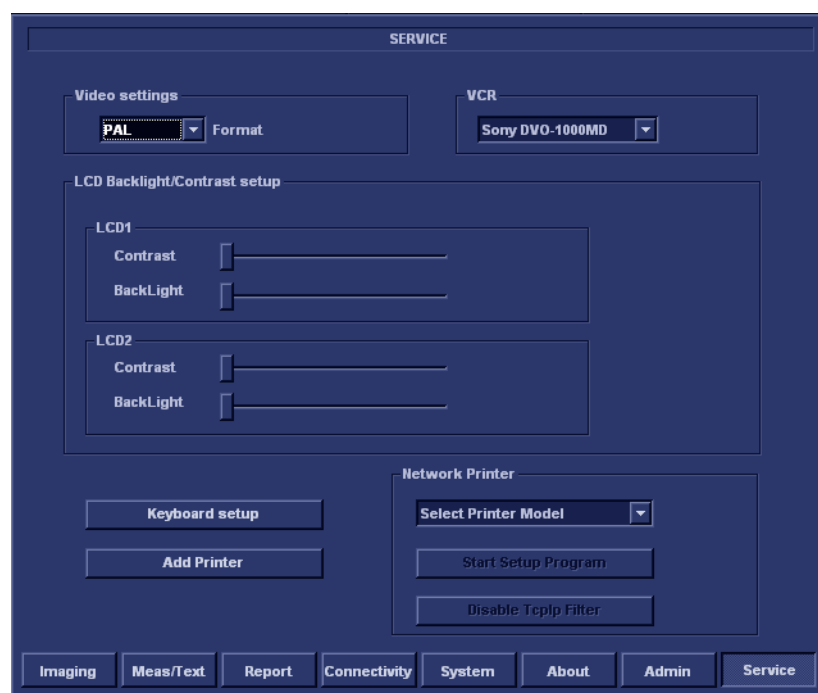

Figure 3-23 Service Screen
- 2.) Select **SERVICE** to view the Service Screen, see Figure 3-23 on page 3-32.